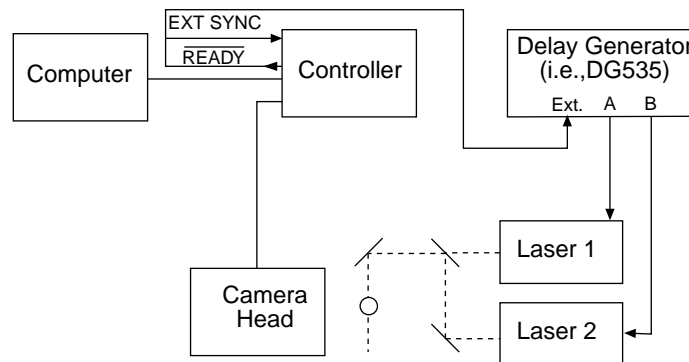

Figure 54. Another hardware setup for an IEC measurement
**Example 2:** As shown in Figure 54, the **READY** signal from the controller can be used to trigger the controller by connecting it back into the **EXT SYNC** connector. At the same time, it can be used to trigger a DG535.